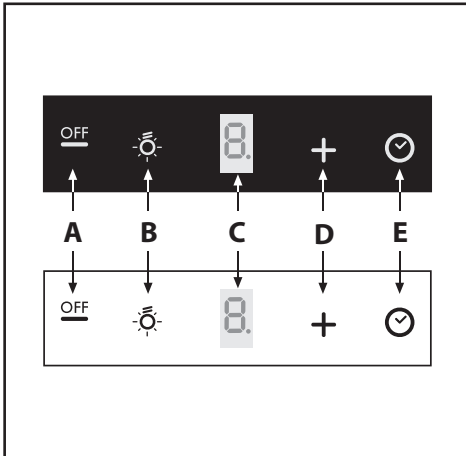

Fig.6
• **The apparatus is equipped with the following controls (Fig.6):**